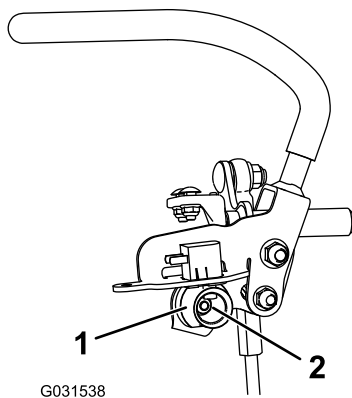

Figure 59
7. Loosen the nut holding the cam (Figure 59).